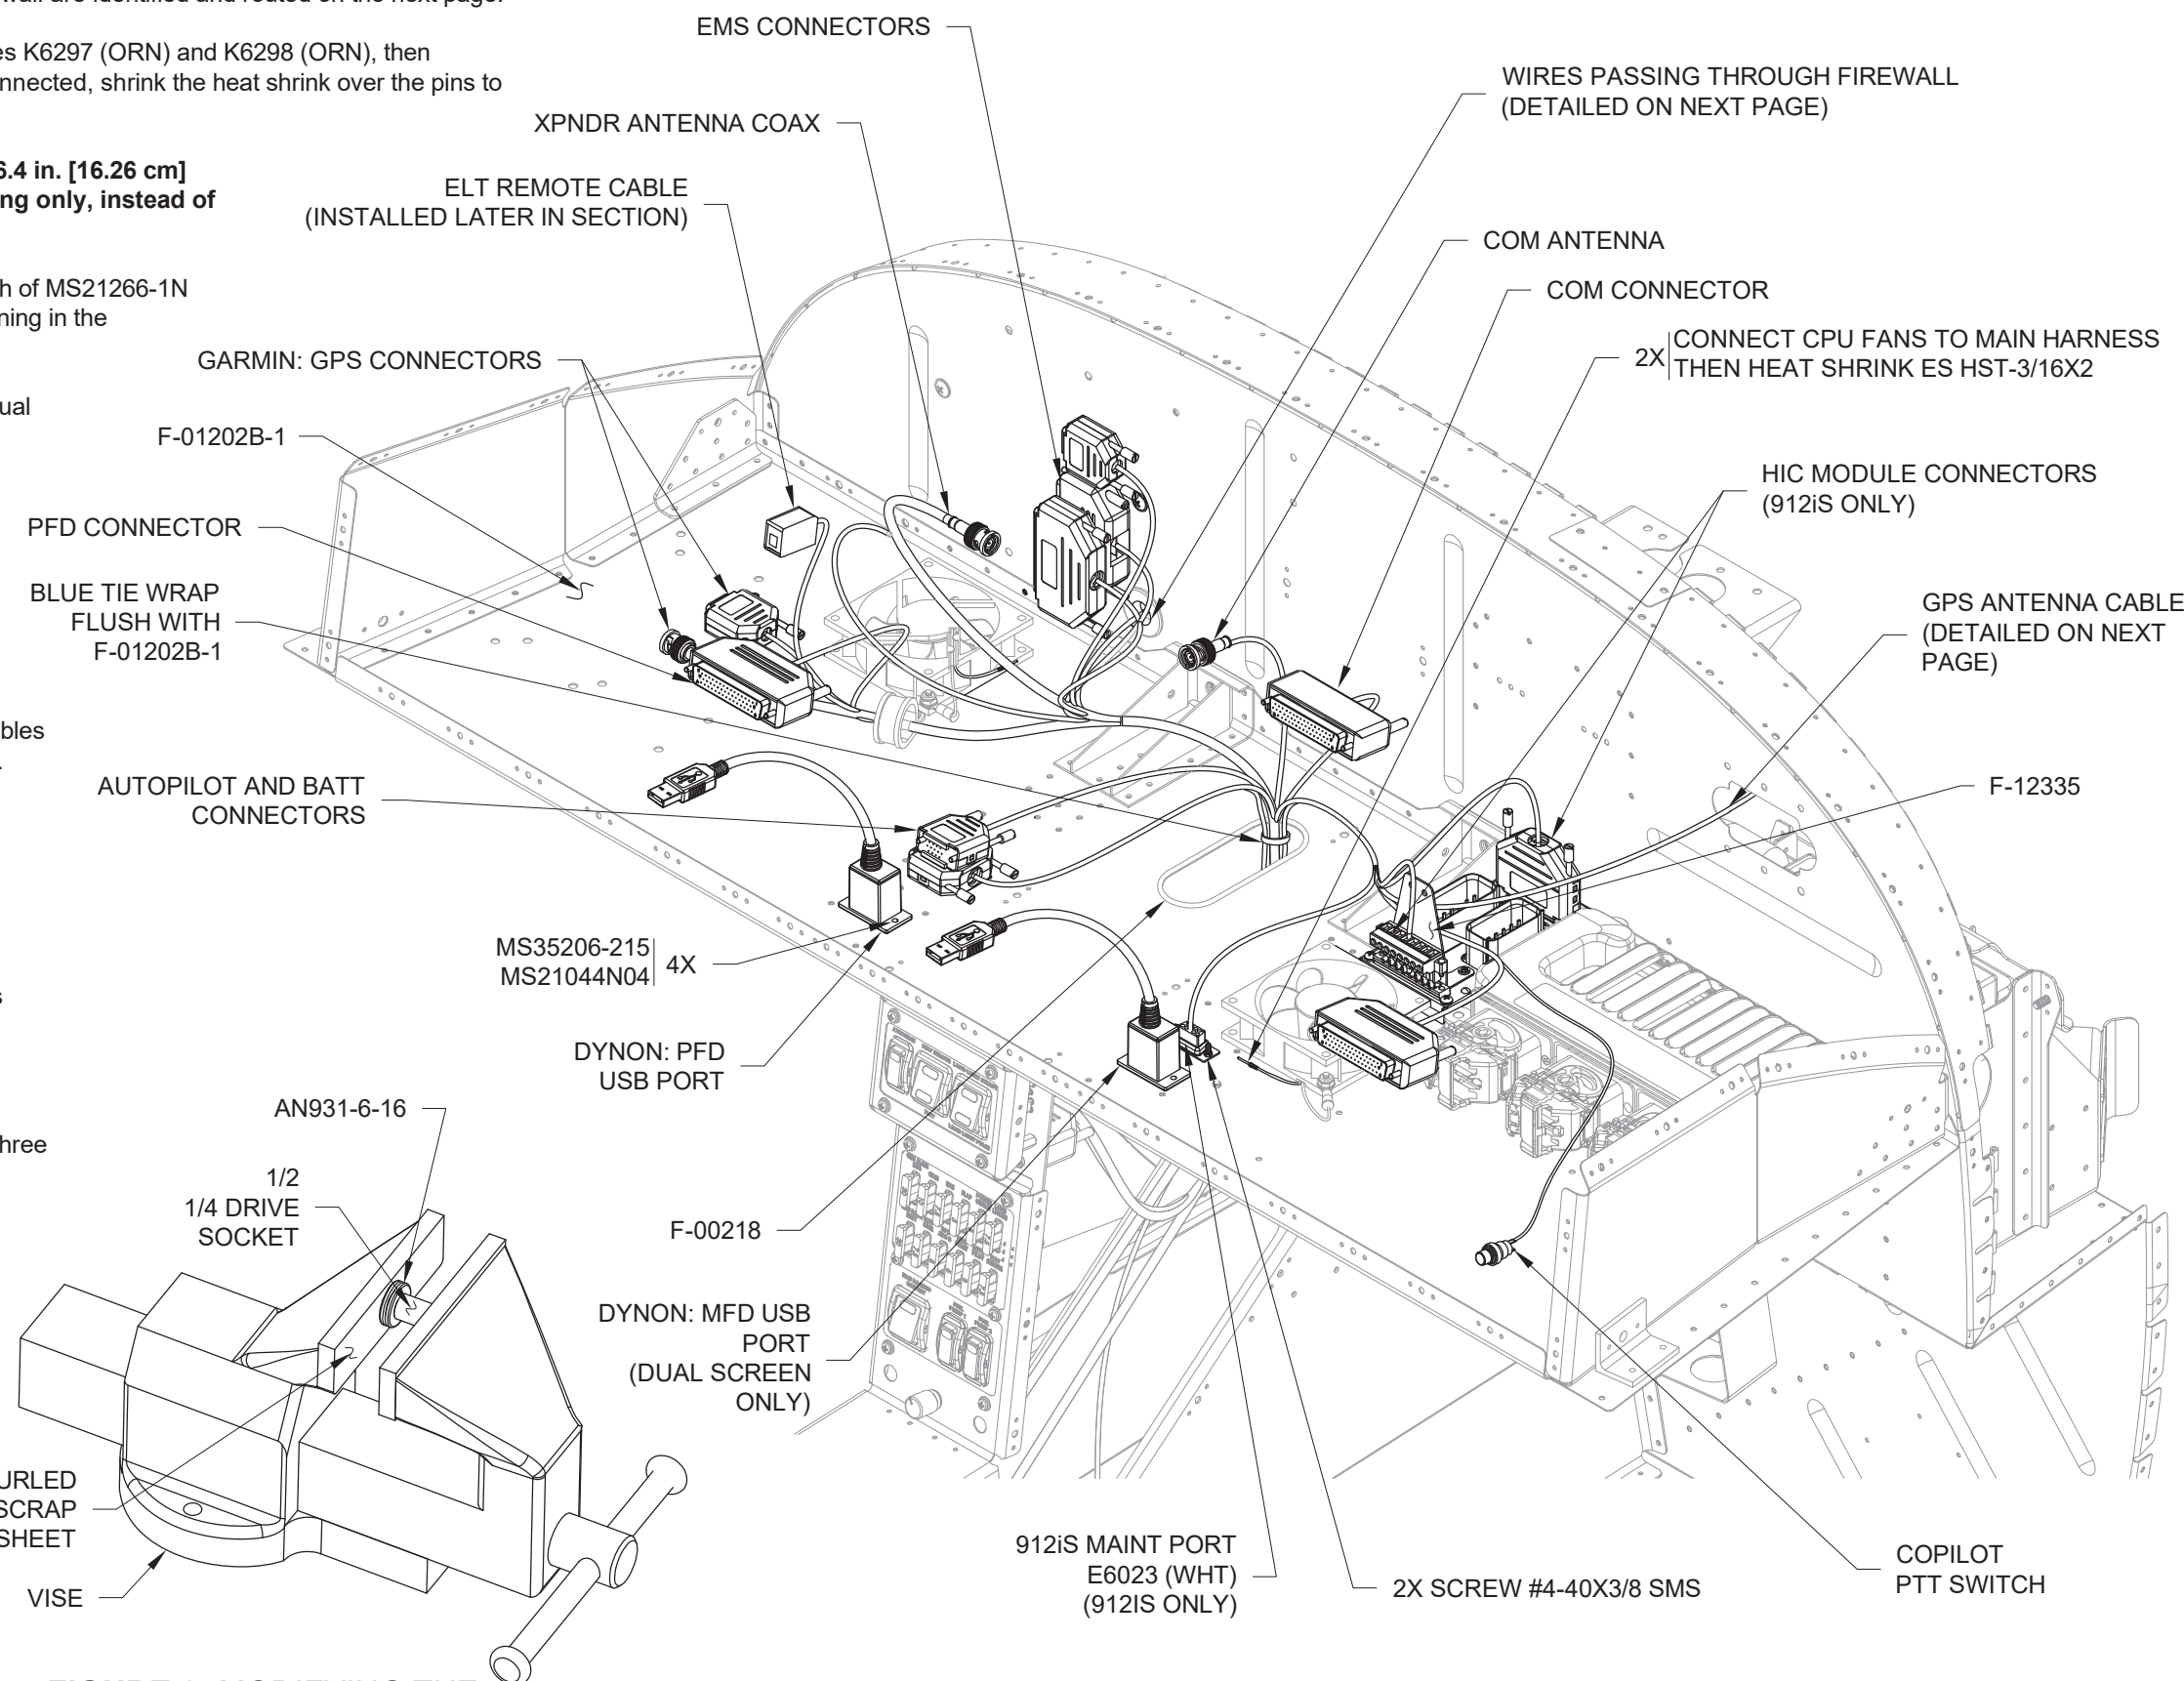

FIGURE 1: F-01202B-1 WIRE ROUTING
Step 7: Cut off the plastic flanges of the 912iS MAINT PORT backshell. Secure the 912iS MAINT PORT on wire E6023 (WHT) to the top of the F-01202B-1 with the hardware shown in Figure 1.
Step 1: Route the wires through the opening in the F-01201A-1 and into position as shown in Figure 1.